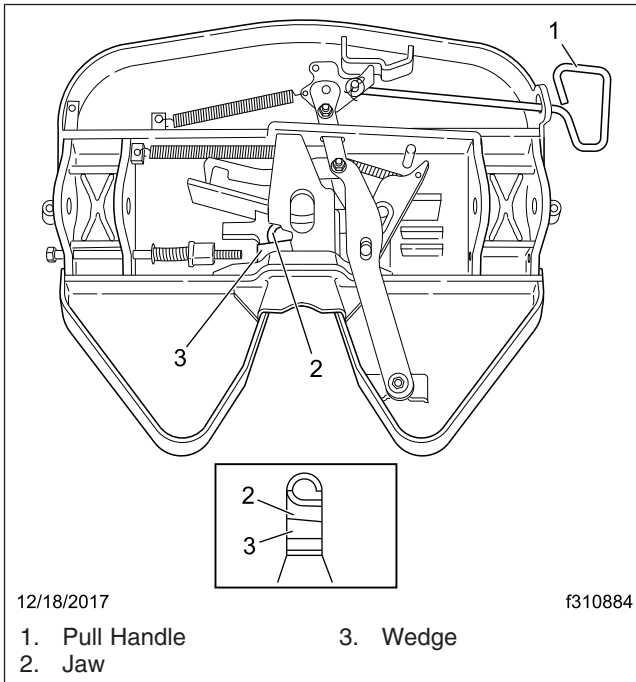

Fig. 6, Fontaine Fifth Wheel
3. Lubricate the fifth wheel prior to opening and closing it. Separate the jaw and wedge with a screwdriver, and grease the full length of their mating surfaces. Lubricate the top and bottom contact surfaces of the jaw and wedge. See Fig. 6. Open and close the fifth wheel several times to further distribute the grease.